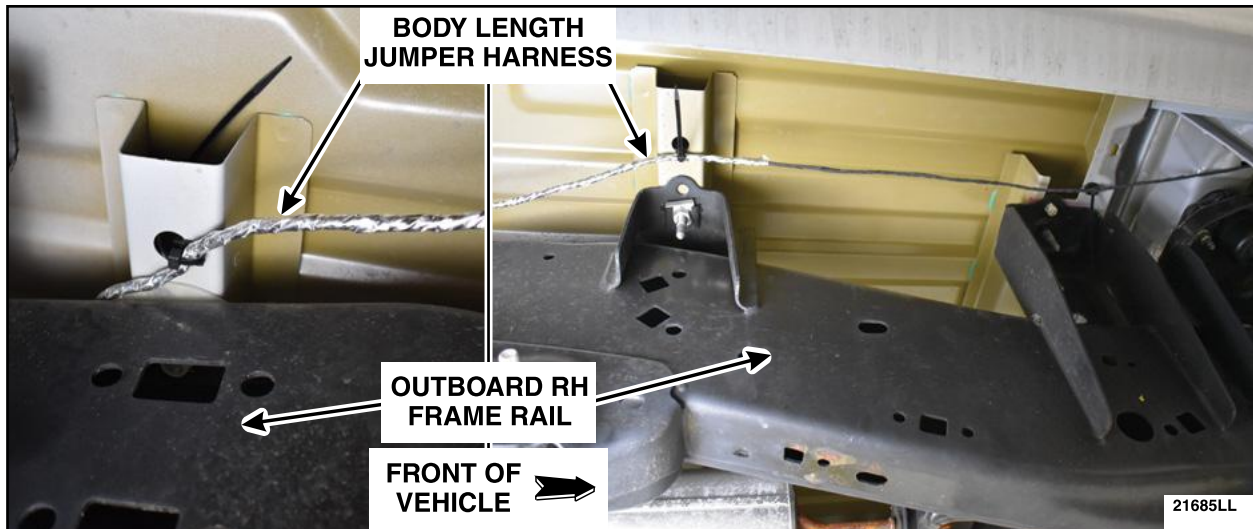

FIGURE 38
42. Route the Body Length Jumper Harness over the RH frame rail and continue on the outboard RH frame rail as close to the bed as possible. Secure the Body Length Jumper Harness to the holes within the underside of the bed and the outboard RH frame using the assorted supplied tie straps every 12 in (305 mm). See Figure 38.